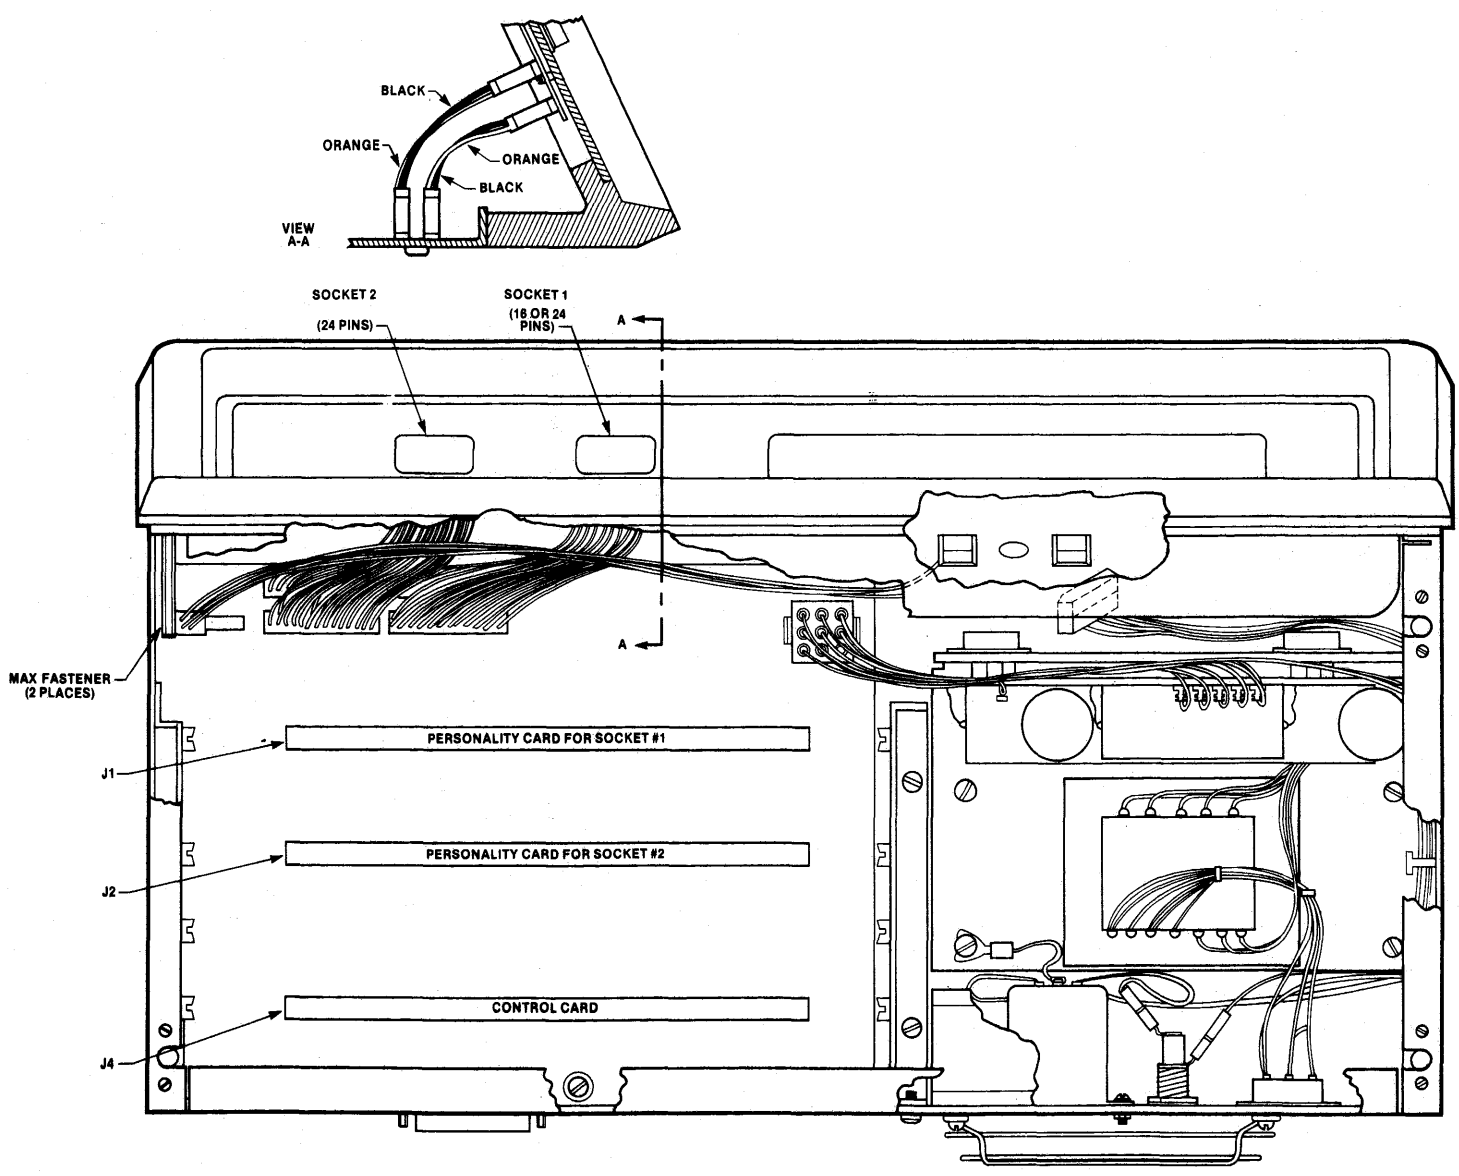

Figure 1-2. Universal PROM Programmer Interior (Top) View
- c. Carefully remove the UPP's front bezel by removing the hex standoffs at the inside top corners of the UPP. (Refer to figure 1-2.) With the standoffs removed, pull the bezel forward from the bottom to release the two quick-disconnect fasteners which hold the bottom of the bezel to the chassis. Lay the bezel in front of the UPP. Note that the cables between the socket board and mother board restrict bezel travel to approximately four inches.
- h. Connect the four cable assemblies to the socket board as shown in figure 1-2.
Figure 1-2 shows the interior of the UPP as viewed from the rear. Three card slots for PCB's are provided. The card slot nearest the rear of the UPP holds the control board, which normally is not removed except for maintenance. The card slot nearest the front of the UPP holds the personality module that is associated with SOCKET 1 on the front panel (the 16-pin socket on the UPP-501 socket board). The center card slot holds the personality module that is associated with SOCKET 2.